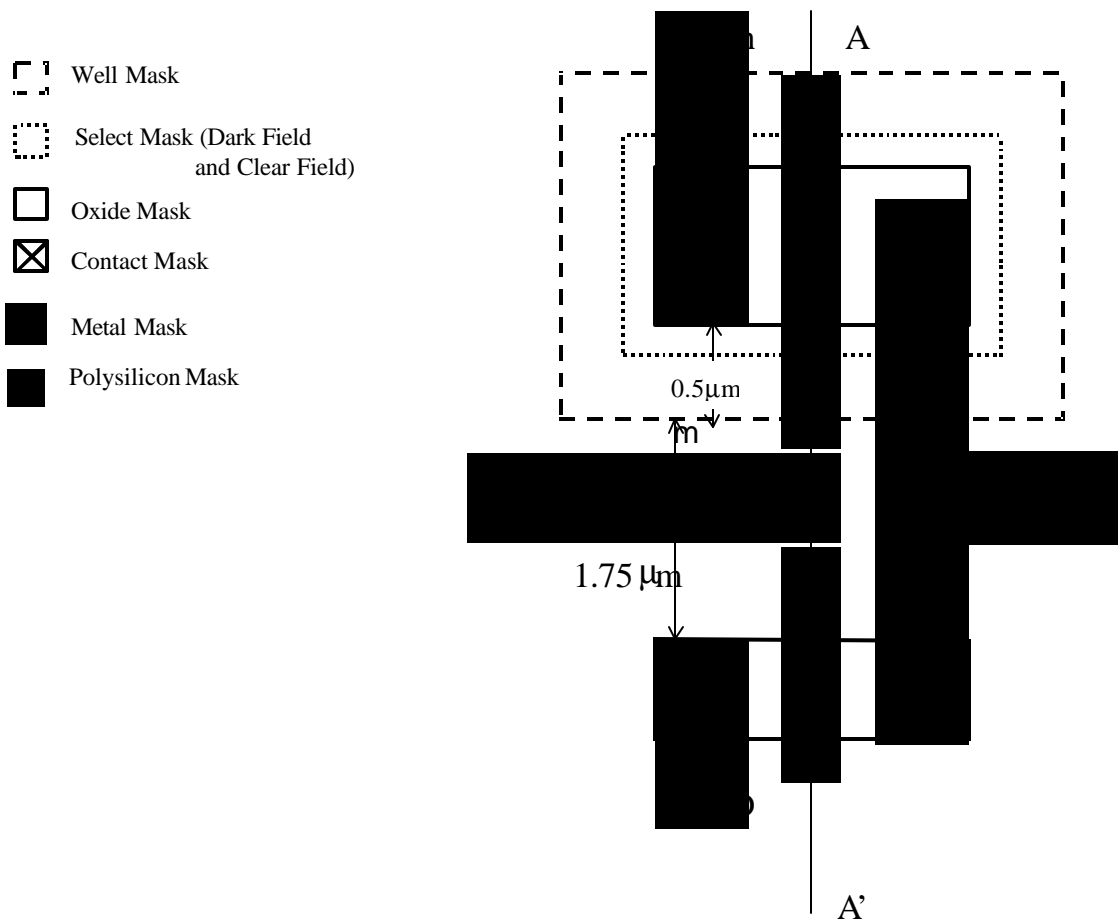

Figure 4.1
Figure 4.1 shows the general shape of a “quarter micron gate” CMOS inverter. In other words this is a “ $\lambda = 0.125\mu\text{m}$ ” process. The node labeled “Vhigh” is where V_{DD} is connected and is the most positive voltage in the circuit. GND is the lowest voltage..
3. The minimum NMOS transistor to PMOS well spacing is $1.75\mu\text{m}$ or $7*\lambda$ (see Figure 4.1).
4. The minimum PMOS transistor inside the well spacing is 2λ or $0.5\mu\text{m}$. See Fig. 4.1.